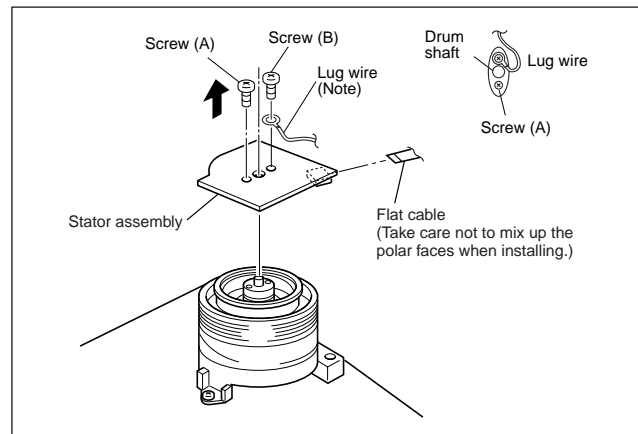
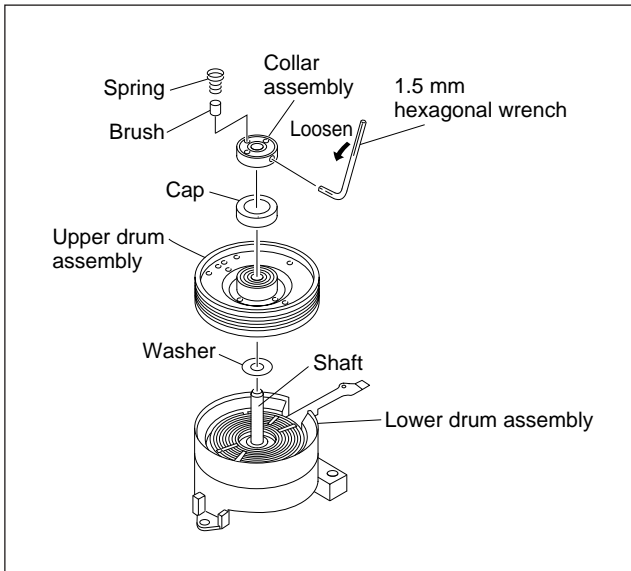
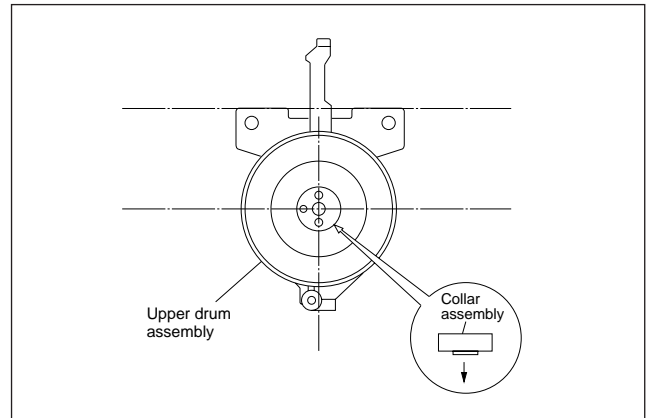

Fig. 2-2-23a
Fig. 2-2-25a
Fig. 2-2-25c
- (2) Install a new washer and upper drum assembly on the drum shaft. (See Fig.2-2-25a.)
- (3) Install the cap to the upper drum assembly.
- (4) Position the collar assembly as indicated in Fig.2-2-25c while controlling its up-down movement.
- (5) Secure the collar assembly in position with a hexagonal wrench while pressing its top with the fingers.
- (6) After installation, gently turn the upper drum assembly with your hand to make sure that it turns normally. Then install the brush and the spring.
- (7) Install the rotor assembly and stator assembly according to Fig 2-2-23a and 2-2-24a.
- (8) When installation is complete, clean the upper drum assembly and lower drum assembly and carry out the following adjustments.